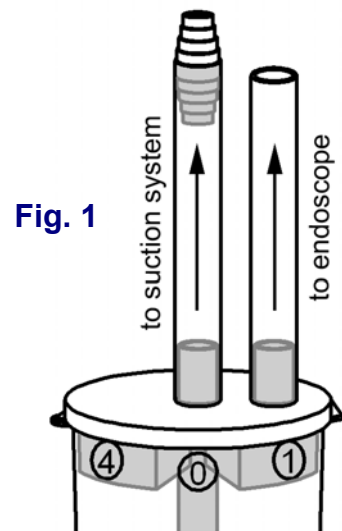

Fig. 1
- Connect tube on center port of trap to suction system (Fig. 1).
- Connect outside port to endoscope (Fig. 1).